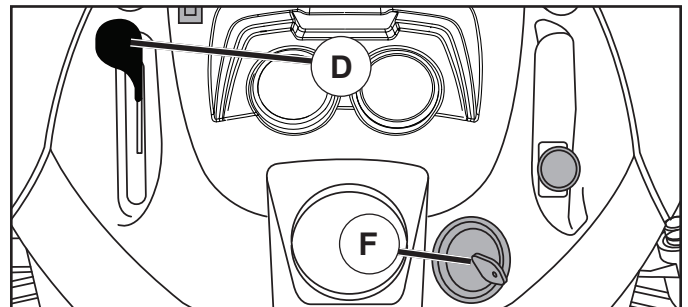

Fig. 8
- Move throttle control (D) to slow position.
- Turn ignition key (F) to "STOP" position and remove key. Always remove key when leaving tractor to prevent unauthorized use.
### TO USE THROTTLE CONTROL (D) (See Fig. 8)